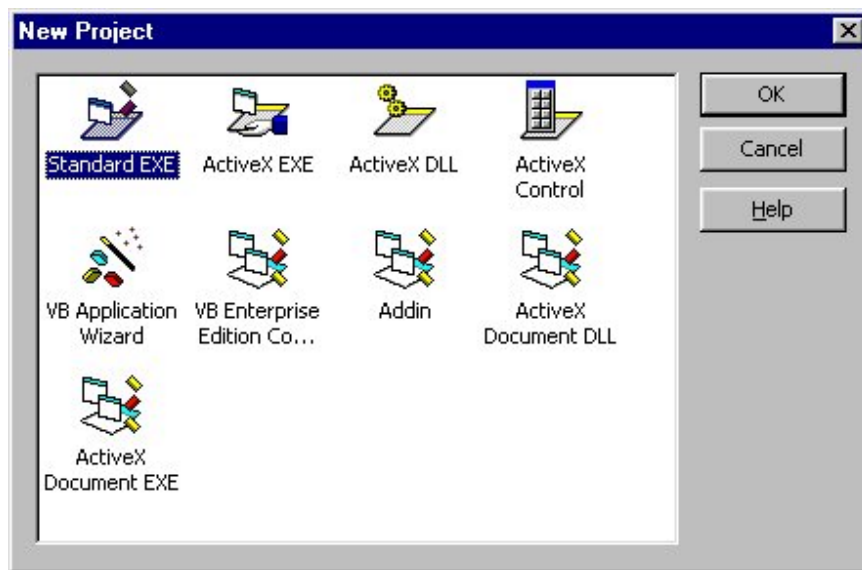

Figure 4-1-1. Select the “Standard EXE”
- Open Visual Basic 5.0. Select the “Standard EXE” option, and then click the “OK” button. Refer to Figure 4-1-1.